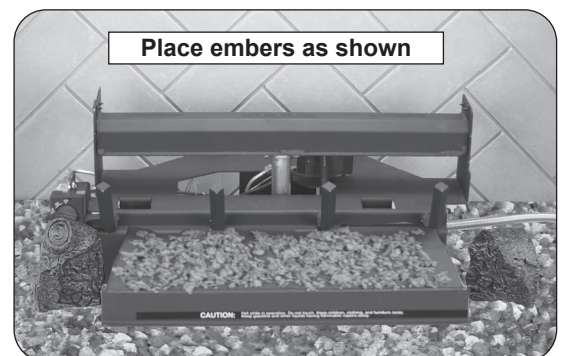

Fig. 19-3 Place glowing embers
1. Place the glowing embers evenly over the entire surface of the ember burner as shown in Fig. 19-3. **Break up any clumps that may have developed during shipment. Store unused embers for later use/replacement.**